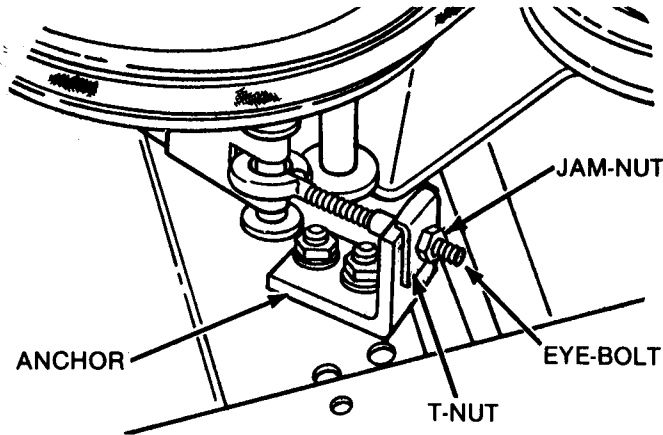

FIG. 9 — BLADE BRAKE ADJUSTMENT
As the brake band wears, the blade control lever will gradually stop further rearward in the slot of the cover. Brake adjustment is required when the lever reaches 1/16" from the back of the slot. A 7/16" wrench is needed for this procedure. The adjusting point is shown in figure 9. The adjustment is made with the engine stopped as follows.
STEP 2: While holding the blade lever firmly in the rearward position, loosen the jam-nut on the end of the eye bolt (figure 9).